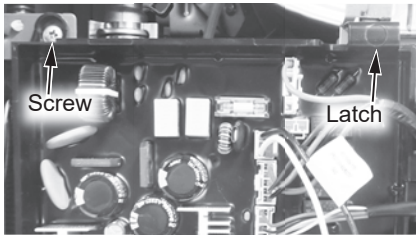

Figure 209 - Control board location
- 12** Locate the two (2) screws at the bottom of the cabinet cover. Use a Phillips screwdriver to remove the screws. Place screws aside in a safe place for reinstallation.
- 14** Locate the screw securing the control board panel as shown in Figure 209. Use a Phillips screwdriver to remove the screw and place it aside in a safe place for reinstallation.